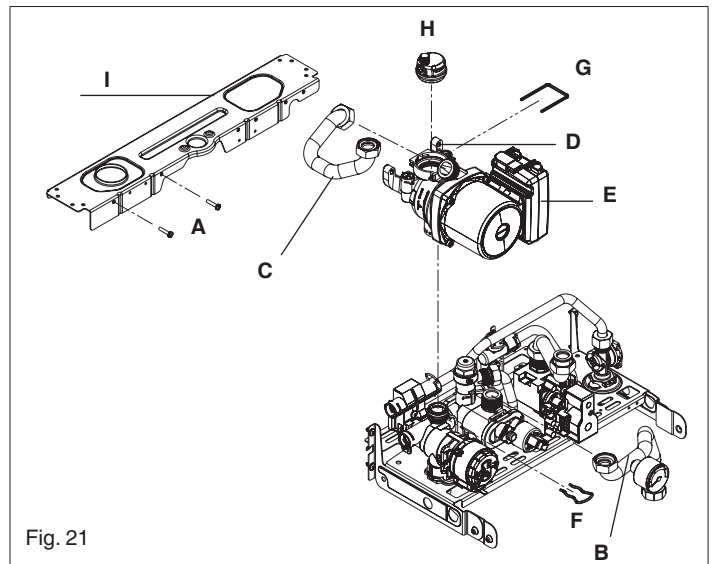

Fig. 21
6.5 PUMP ASSEMBLY (fig. 21)
6.7 BOTTOM AUTOMATIC AIR RELEASE VALVES (fig. 21)
6.24.1 EXPANSION VESSEL REMOVAL (with sufficient clearance above, fig. 21 & 34)
Disconnect the flexible expansion pipe from the vessel. Unscrew the nut that secures the vessel to the frame (I, fig. 21). Locate and remove the 6 screws (A, fig. 34) that secure the vessel top holding plate (B, fig. 34), remove the plate.